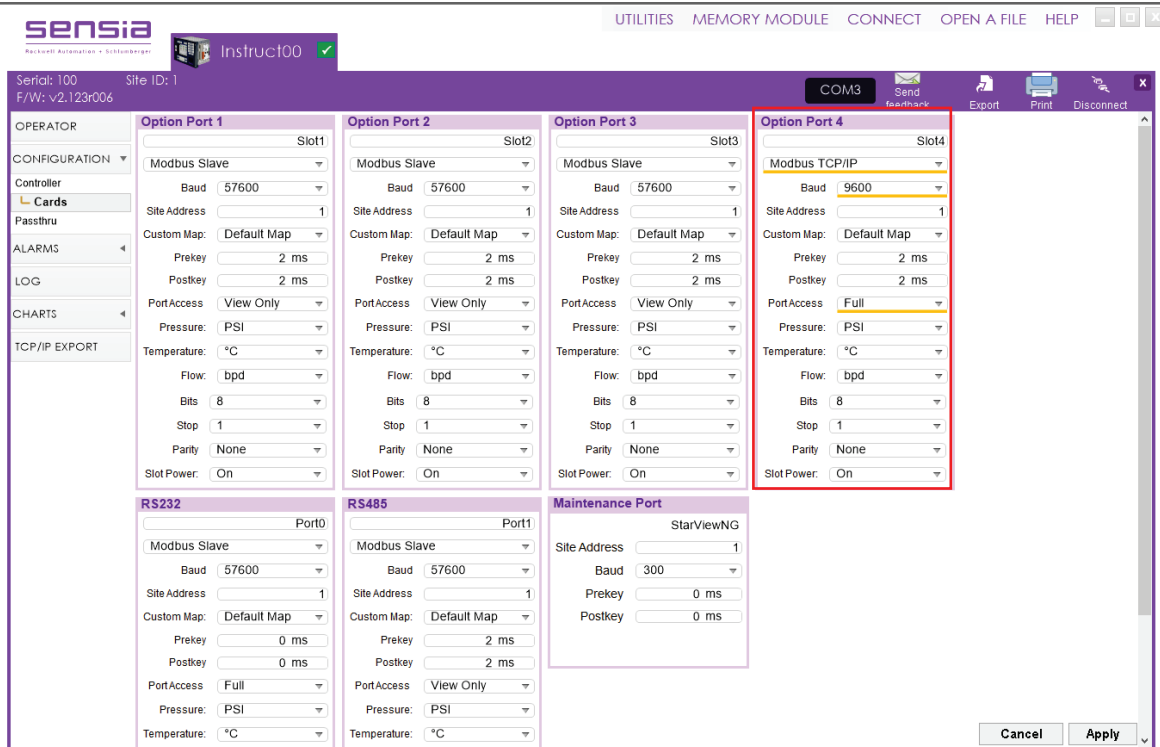

Figure 6-7: Port Configured for TCP/IP, Modbus TCP/IP Card Installed in Option Port 4.
4. Choose port name, site address, baud rate, prekey, postkey, word length, and the number of stops, bits, and parity as per client settings. The option port that is occupied by the Modbus TCP/IP Card should be set to MODBUS TCP/IP. Refer to Figure 6-7: Port Configured for TCP/IP.